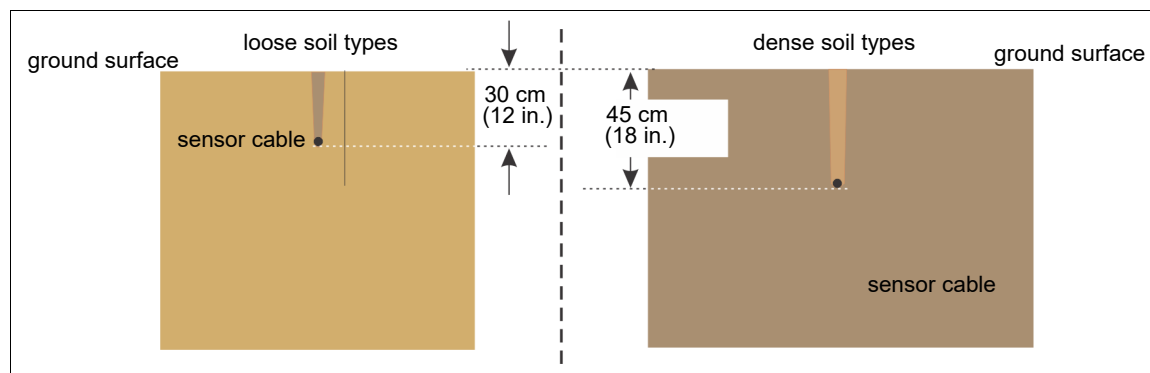

Figure 63: Sensor cable burial for intrusion detection
- burial depth (above ground intrusion detection): the recommended burial depth for the sensor cable is from 30 to 45 cm (12 to 18 in.) (see Figure 63:)